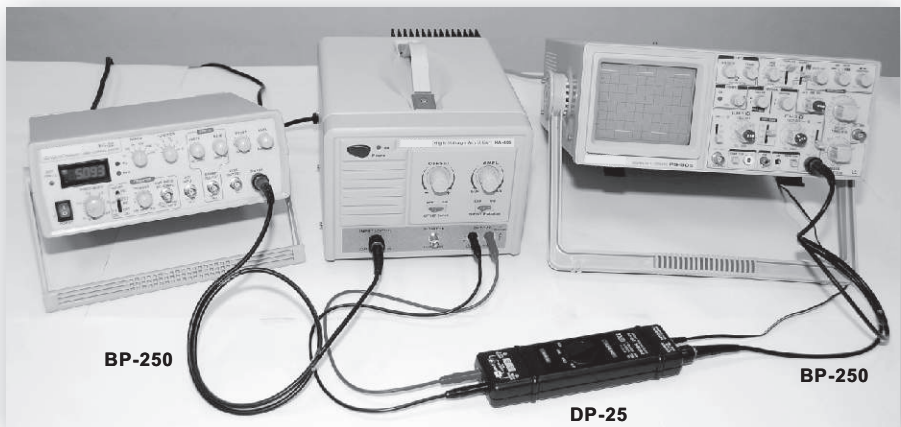

Figure 9.
5.2 Use Function Generator as input, and HA-405 output connects to Differential Probe as interface to transmit signal to oscilloscope to observe. (Figure 9.)